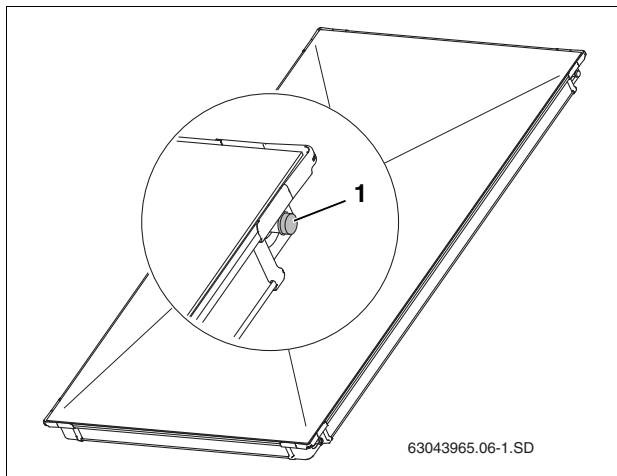

Fig. 5 Rubber caps on collector connections
- ▶ Do not remove the plastic caps (Fig. 5, [1]) until immediately prior to installation.